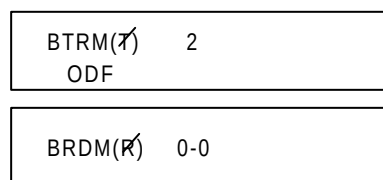

Figure 5-11 Filling format of optical fiber labels
1) For the optical fiber from BTRM to BRDM, only the sector No. (0-5) is allowed in the BTRM label part, as shown in Figure 5-11.